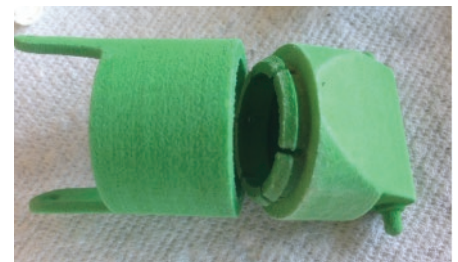

figure 1
1. Glue (J) to (K) to complete tail assembly.
2. Apply a little white lube above the slotted clips of (I). Insert one side of clips into (G) and, with a twist, push the parts together until it clicks closed. Rotate to work the lube through the joint. (*figure 1*)
3. Trim and apply rectangular body decal to (G). Start the wrapping just past the halfway point between the arms, following the seam of the rotating joint. There should be 1/8" overlap when finished.
4. Apply labels to all eight body segments (H).
5. Before attaching the body segments, make sure the seam is on the same side. If you miss one, don't worry...the parts can be disassembled and flipped. Apply drop of lube to pins of (I) and insert one pin of (I) into the arm hole